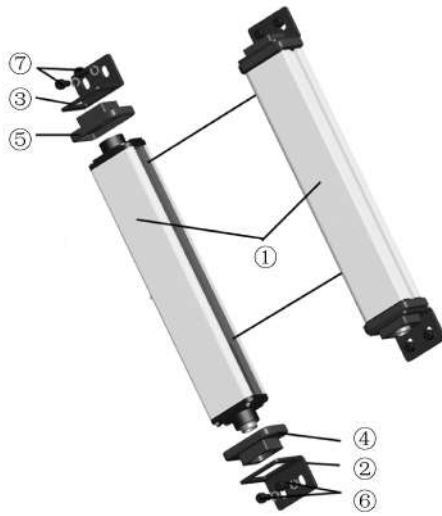

Fig2.5 Common side mounting (PC)
The way, to install emitter and receiver through KS common side-mounting bracket directly on bed piece, is generally applied to straight side press of support construction. The form of installation is shown in Fig2.5.
1. In the premise of ensuring the safety distance, select proper installation position on the machine bed piece, drill and tap according to dimensions shown in Fig2.5.C. Attention must be given in locating the drilling hole to ensure that the emitter and receiver is parallel and aligned after being installed.